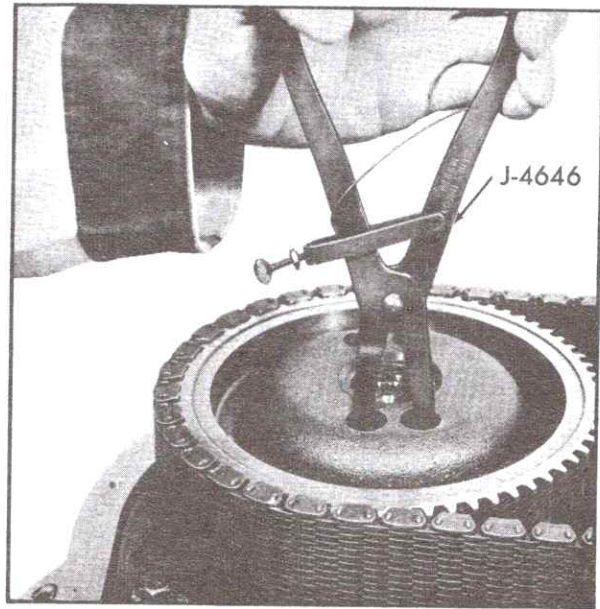

Fig. 7-196 Installing Sprocket Snap Rings
9. Install Snap Ring Pliers, J-4646, into sprocket bearing retainer snap rings, located under the drive and driven sprockets, and install snap rings into retaining grooves on support housings, Fig. 7-196.